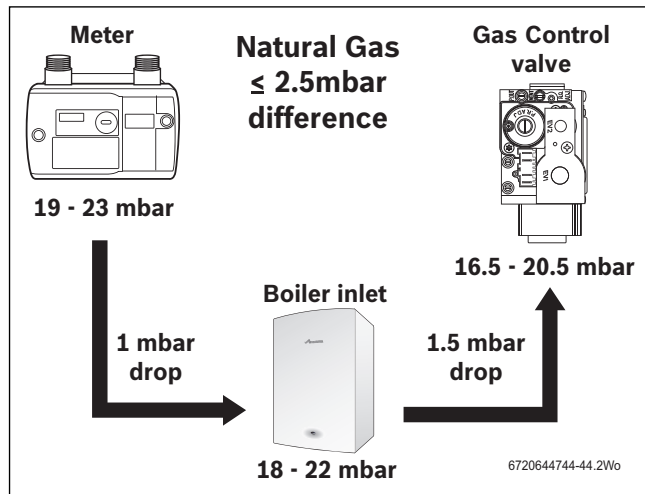

Fig. 54 Natural gas pressures
- Press the Performance test button (J) for more than ten seconds and set Central Heating temperature to maximum.
- The Performance test button (J) will illuminate continually and the display (C) will alternate between  and the central heating flow temperature.
- ▶ Check the gas supply working pressure at the gas valve conforms to values shown in Fig. 54 or Fig. 55 .
If the pressure drops are greater than shown in figure 54, then this would indicate a problem with the pipe work or connections within the system.